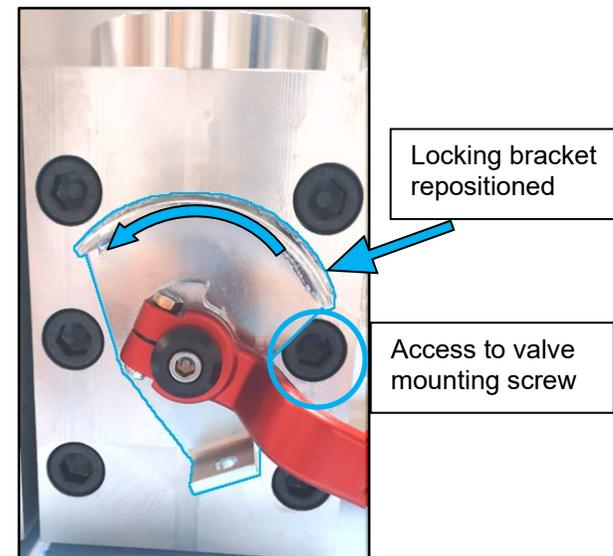

Figure 3-7. Isolation Valve Locking Bracket Repositioning
3. Adjust the handle locking bracket position to reach all six screws retaining the isolation valve (Figure 3-7).